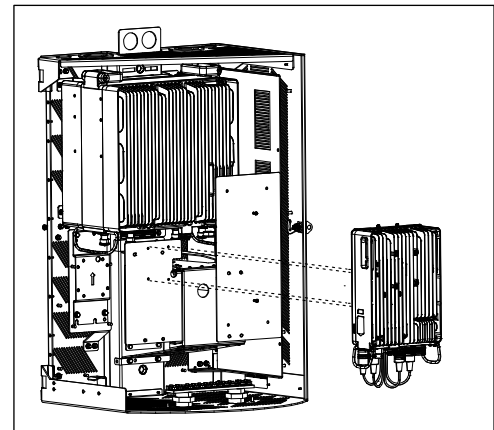

Figure 4 Install CBRS Radio
3. Attach the CBRS radio to the smaller of the front-facing panels (Figure 4). If the SHRD60 has a radio in that position, remove the radio and store or discard per company practice.